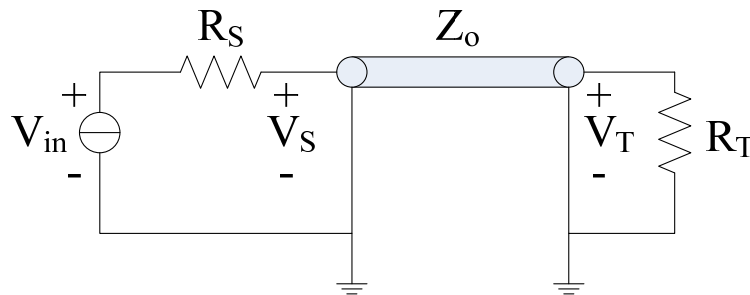

Figure 8 Transmission Line Termination Example
Assuming the delay time of a transmission line as shown in Figure 8 is 1ns and the input source is 1V step with 1ns delay, while $R_S=400\Omega$, $R_T=600\Omega$, and $Z_0=50\Omega$, what is the voltage at source terminal at time=1ns? Calculate the reflection coefficient and draw the lattice diagram. What is the final value?
1. Please work out the waveforms using Lattice Diagram for the terminated transmission line as shown in Figure 8. Assuming the delay time of the transmission line is 2ns and the input source is 1V step with 1ns delay. $R_S=100\Omega$, $R_T=30\Omega$, and $Z_0=50\Omega$
Repeat the pre-lab question. Please work out the waveforms for the terminated transmission line circuit as shown in Figure 8. Please compare these three cases in terms of signal integrity. What is the final value in each case?